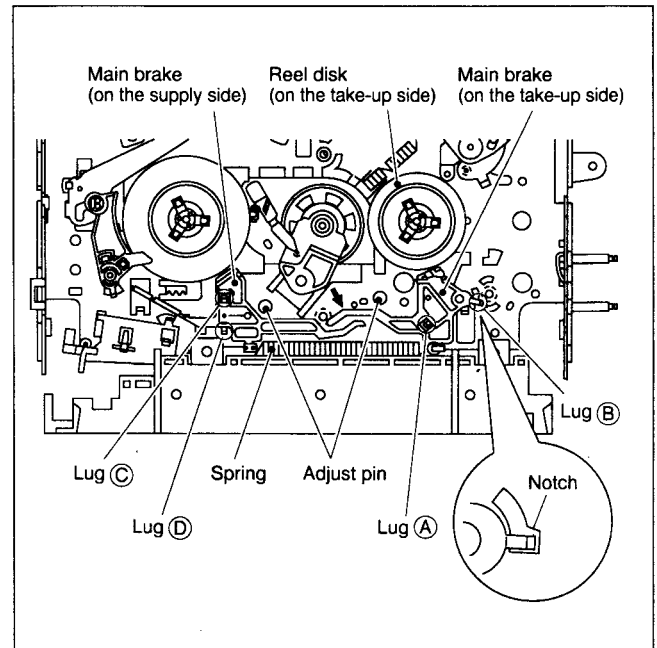

Fig. 2-2-33
- (1) Move the main brake (on the take-up side) in the arrow-indicated direction and remove the reel disk (on the take-up side).
- (2) Remove the spring attached to the main brake.
- (3) Remove lug **A** of the main brake (on the take-up side) and pull out lug **B** after bringing it into alignment with the main deck notch.
- (4) Remove lugs **C** and **D** of the main brake (on the supply side) from the main deck and pull them off. (See Fig. 2-2-33)